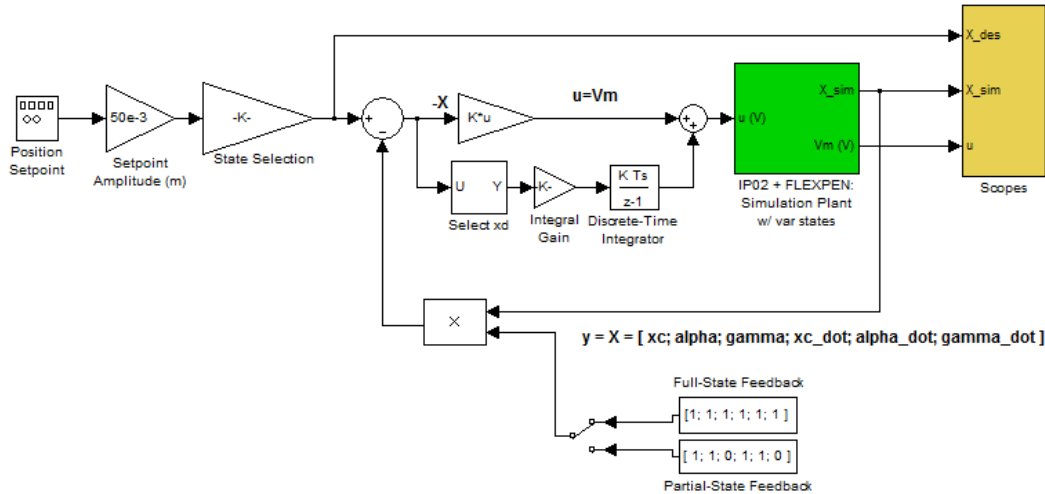

Figure 3.1: Simulink model used to simulate Flexible Pendulum.
In this section we will use the Simulink diagram shown in Figure 3.1 to simulate the closed-loop control of the Flexible Pendulum system. The system is simulated using the linear model summarized in Section 2.1. The Simulink model uses the state-feedback control described in Section 2.2.4. The feedback gain  $K$  is found using the Matlab LQR command (LQR is described briefly in Section 2.2.3). The goal is to make sure the gain used successfully stabilizes the system (i.e., keeps it balanced), and does not saturate the dc motor.
The state-feedback controller has proportional-derivative (PD) action and the integral (I) action. The *IP02 + FLEXPEN* block shown in Figure 3.1 creates the primary state vector using a differentiating filter, with an additional integral block in the open loop. The position and velocity states of the model are multiplied by the vector gain  $k$  computed in earlier in, i.e.,  $k(1 : 6) = [k_1, k_2, k_3, k_4, k_5, k_6]$ , and added to the integral component. The *Signal Generator* introduces a 50 millimeter setpoint in order to evaluate the step-response performance of the control system.